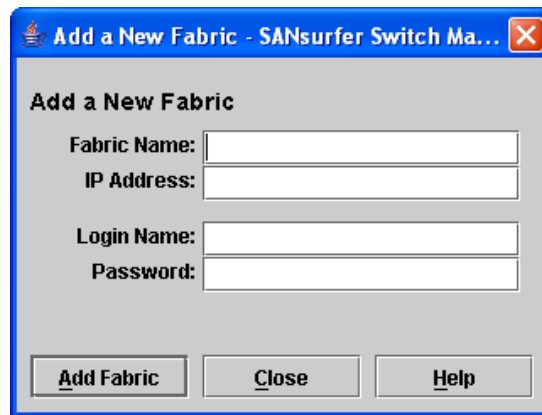

Figure 3-2. Add a New Fabric Dialog
1. Open the Fabric menu and select **Add Fabric** to open the Add a New Fabric dialog as shown in Figure 3-2.